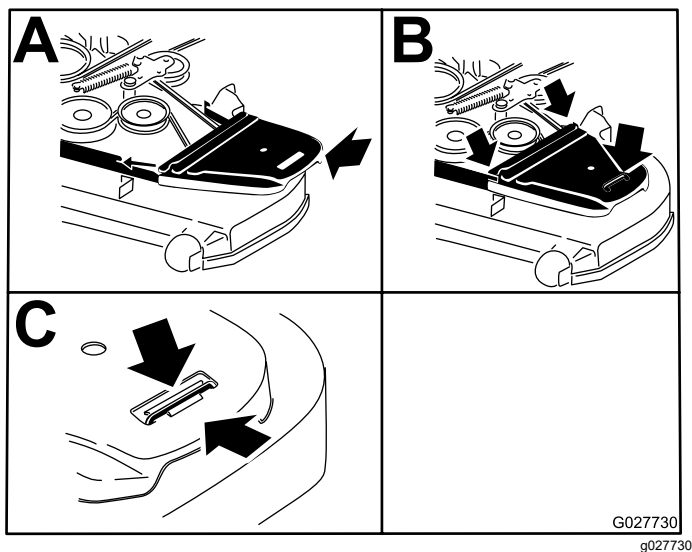

Figure 77
12. Install the belt covers (Figure 77).